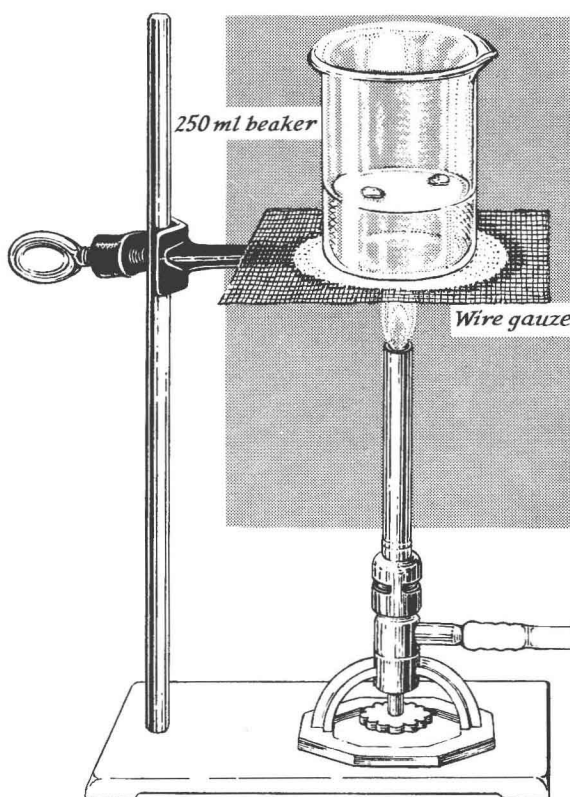

Fig. 2-2. Comparing melting behavior.
- a. Remove the lid from the ring stand and replace it with a wire gauze and a 250 milliliter (ml) beaker or small tin can about one-third full of water. See Fig. 2-2.